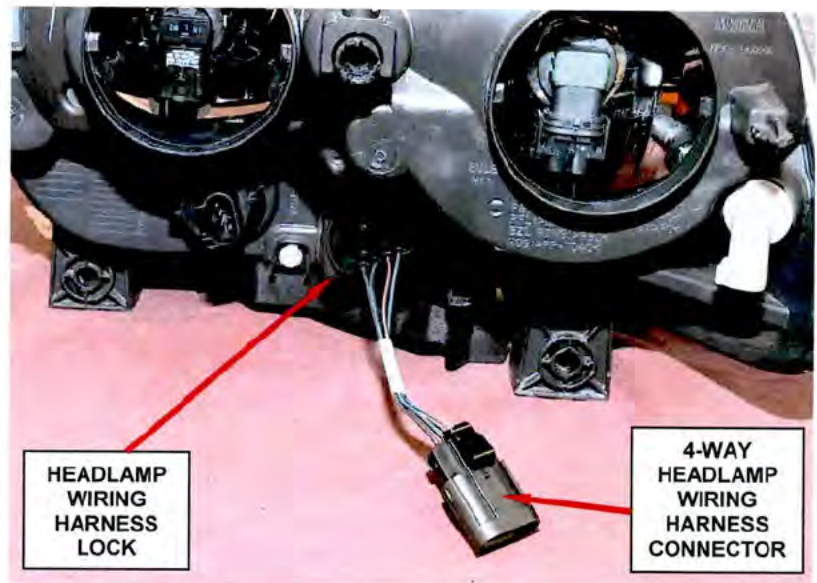

Figure 5 – Headlamp Wiring Harness Lock
16. Engage the headlamp wiring harness lock into the headlamp housing (Figure 5).